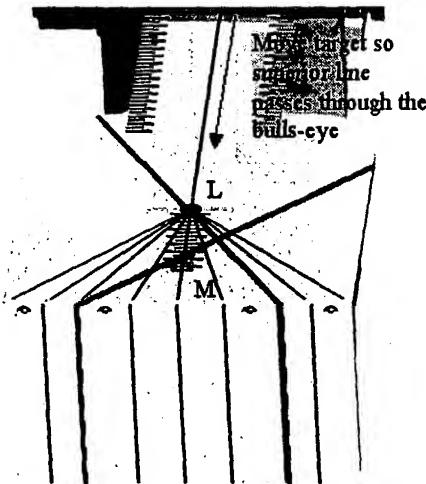

Fig. 13
- d. Move the Target longitudinally so the "Bulls-eye" is on the centerline of the more superior dot of the two beams. Use the targets built in ruler to count down from the present position. (Fig. 13)